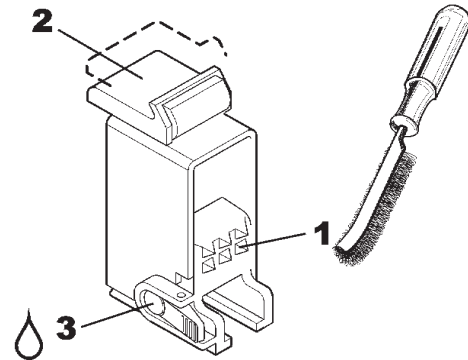

Fig. 6.0-2
C. Weekly clean the teeth of the jaws (1 Fig. 6.0-2) with a wire brush, check the nylon clamping jaw insert (2) and replace if worn.